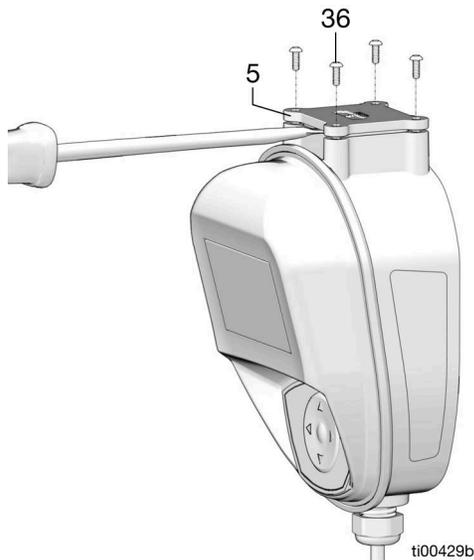

FIG. 50
- Follow the polarity (FIG. 50).
1. Remove screws (36) from the battery compartment cover (5).
2. Use a small, flat screwdriver to gently pry the cover away from the dispense controller housing (FIG. 50).